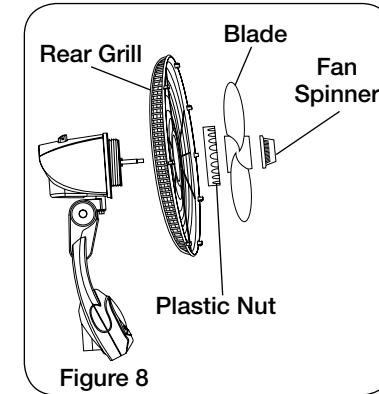
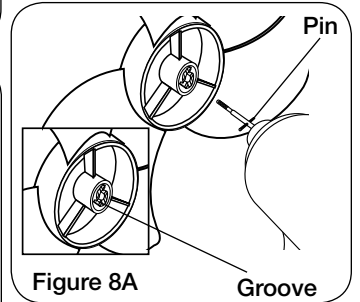

Figure 8
Figure 8A
- Fully seat Rear Grill and secure with Plastic Nut turning Clockwise. Slide Blade onto Motor Shaft. (Figure 8) Align Groove on blade hub with Pin on motor shaft. (Figure 8A)